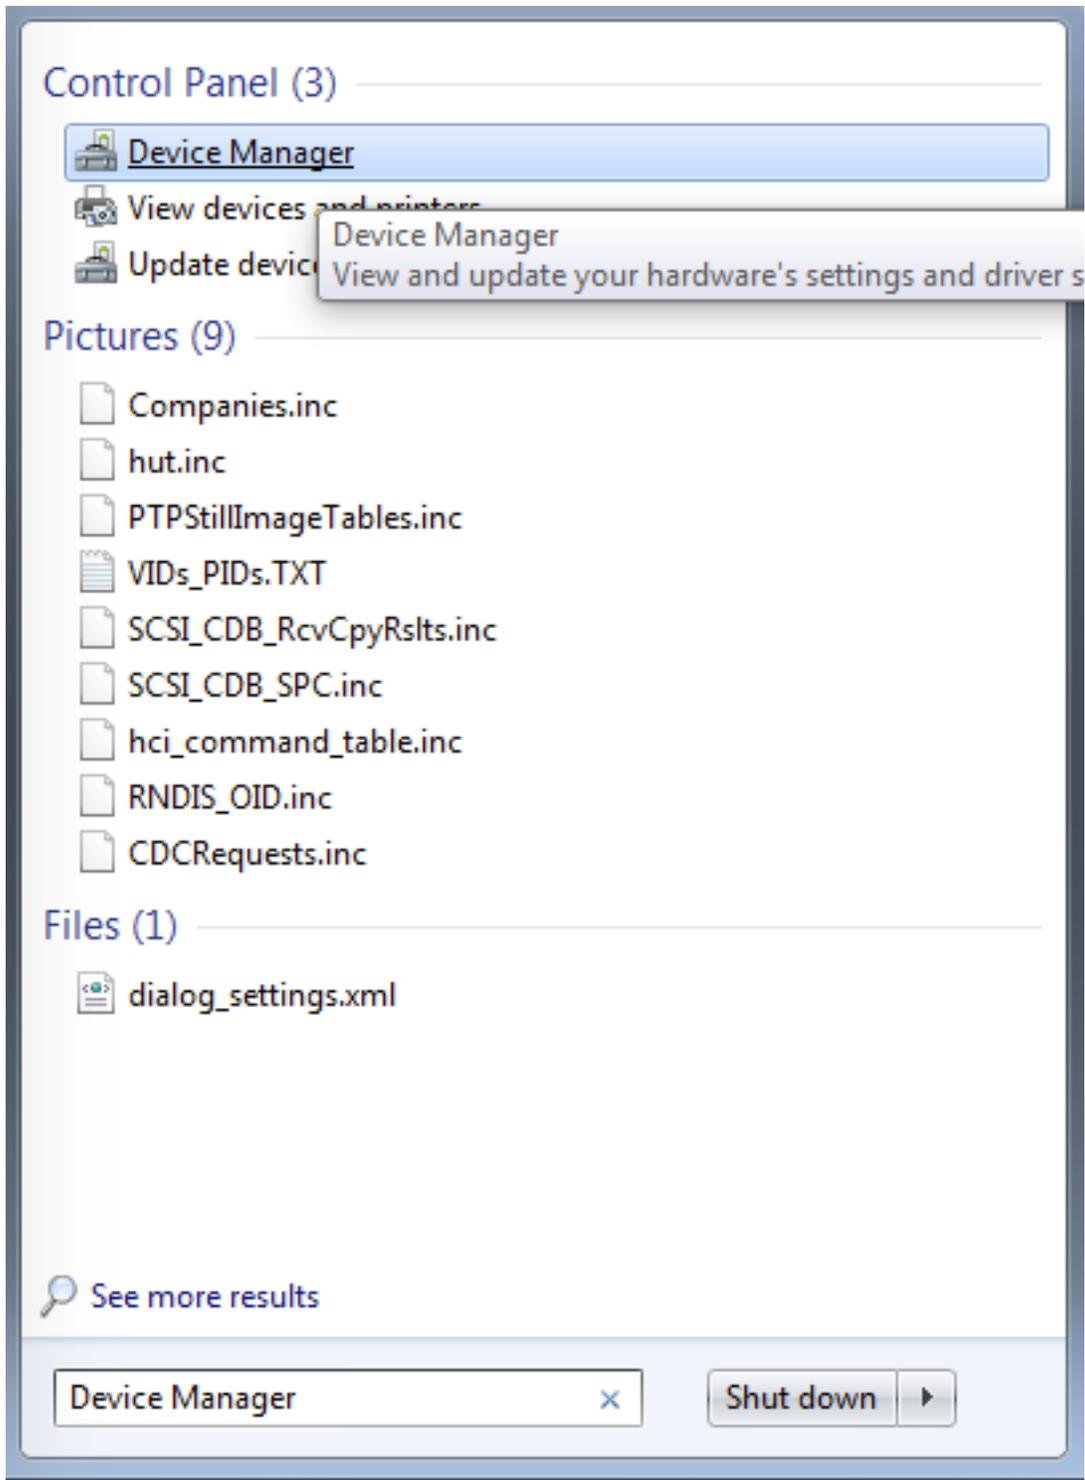

Figure 41. Device manager
1. To determine the COM port, open the Windows operating system Device Manager. This can be achieved by going to the Windows operating system **Start** menu and typing **Device Manager** in the search bar, as shown in Figure 41 :